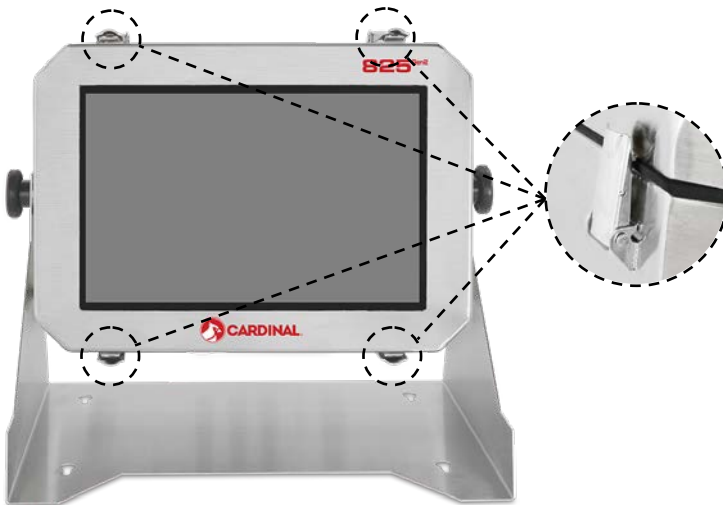

Figure No.3
1. Referring to Figure No. 3, unsnap the four draw latches (two on top and two on bottom) securing the front display panel to the rear enclosure, and then lower the hinged front display panel. See Figure No. 4.
1. If the front panel of the indicator has been lowered, proceed to step 2. Otherwise, referring to Figure No. 3, unsnap the four draw latches (two on top and two on bottom) securing the front display panel to the rear enclosure, and then lower the hinged front display panel. See Figure No. 4.